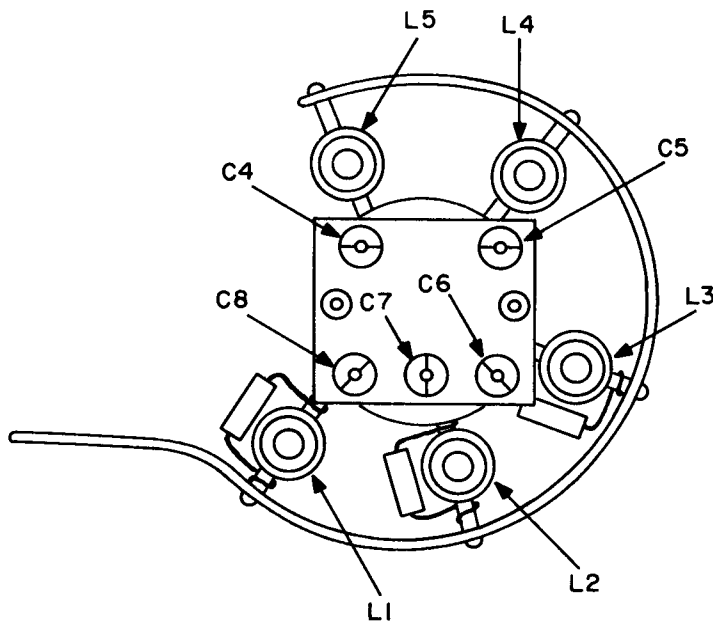

Figure 5. Location of Band Adjustments
3. Set tuning knob on Model 330 to exactly half the known broadcast station frequency and adjust coil L1 (shown in figure 5) for a zero beat.
5. Set Model 330 tuning knob to exactly half the broadcast station frequency; then tune capacitor C8 (figure 5) for a zero beat.
3. Set Model 330 tuning knob to exactly half the broadcast station frequency and adjust coil L2 (figure 5) for a zero beat.
3. Set Model 330 to same frequency and adjust coil L3 (figure 5) for zero beat.
3. Set Model 330 tuning knob to same frequency and tune coil L4 (figure 5) for zero beat.
3. Set Model 330 tuning knob to the same frequency and tune coil L5 (figure 5) for zero beat.